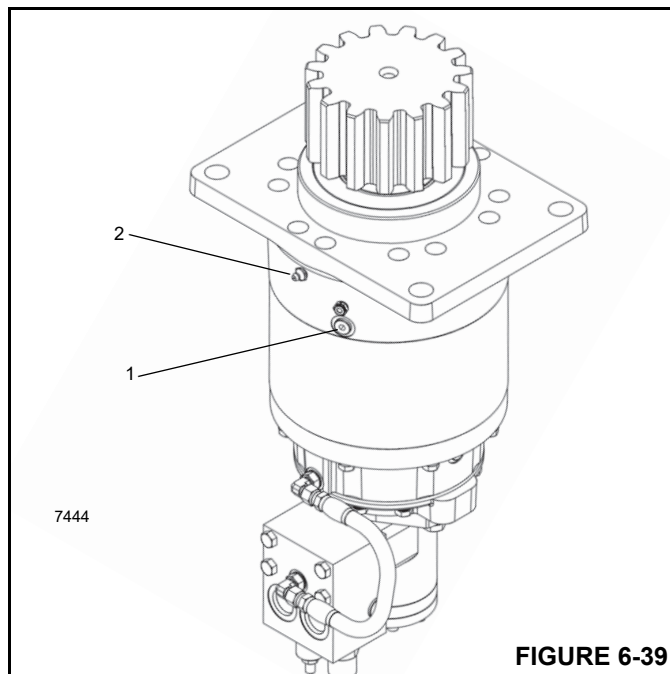

FIGURE 6-39
1. Clean around the swing gear box check plug (1, Figure 6-39) and remove the plug.
4. Apply a Lithium Base E.P. No. 2 bearing grease to the grease fitting (2, Figure 6-39) on the gear box.